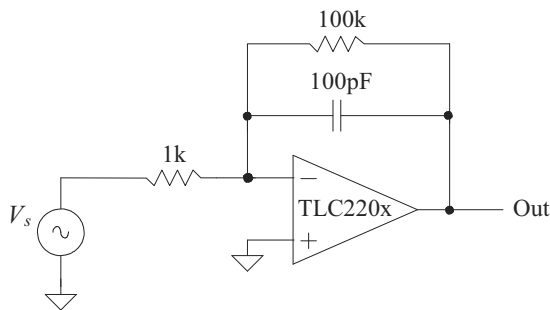

Figure 8.50 Circuit for Problem 8.15.
- 8.15 Estimate the RMS output noise for the circuit seen in Fig. 8.50. Compare the hand-calculated result to SPICE simulation results using an ideal op-amp (as used in Ex. 8.18).